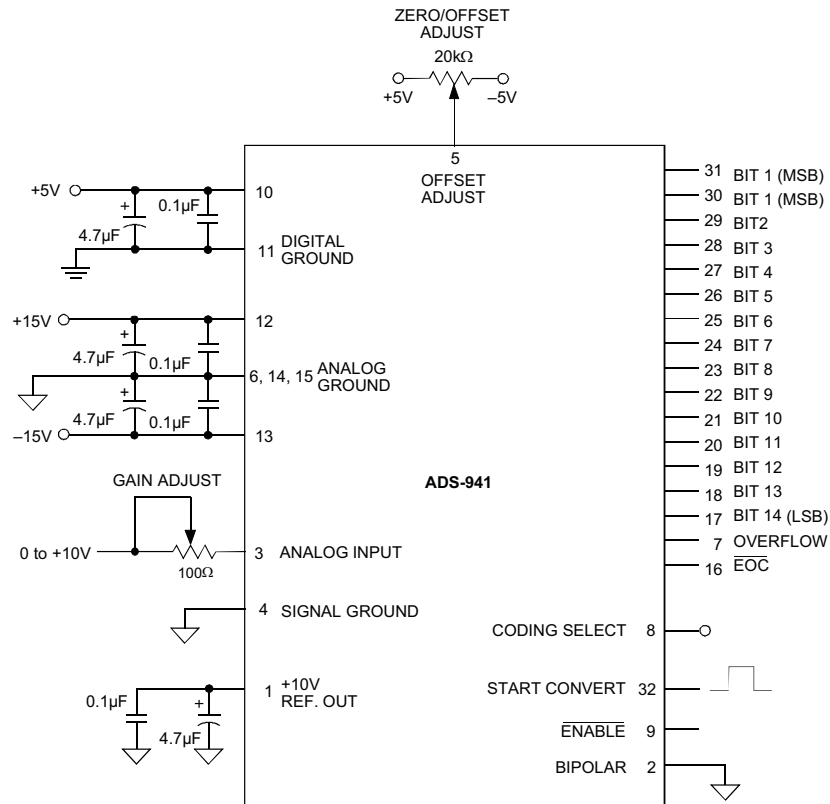

Figure 3. Typical ADS-941 Connection Diagram
1. Connect the converter per Figure 3 and Table 1 for the appropriate input range. Apply a pulse of 50 nanoseconds minimum to START CONVERT (pin 32) at a rate of 200kHz. This rate is chosen to reduce flicker if LED's are used on the outputs for calibration purposes.